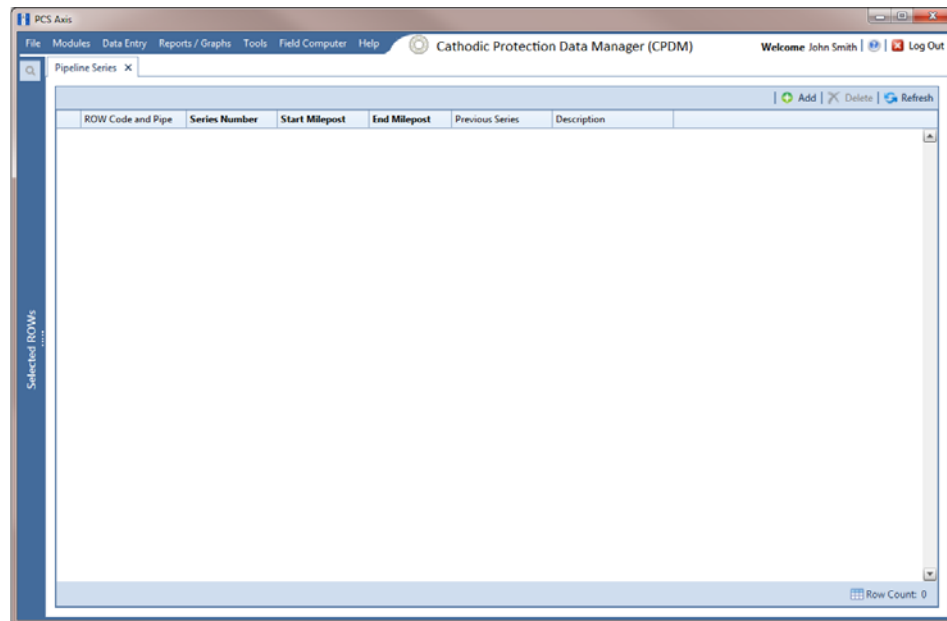

Figure 3-66. Pipeline Series
- 3 Click **Data Entry > Pipeline Series** to open the *Pipeline Series* window (Figure 3-66).